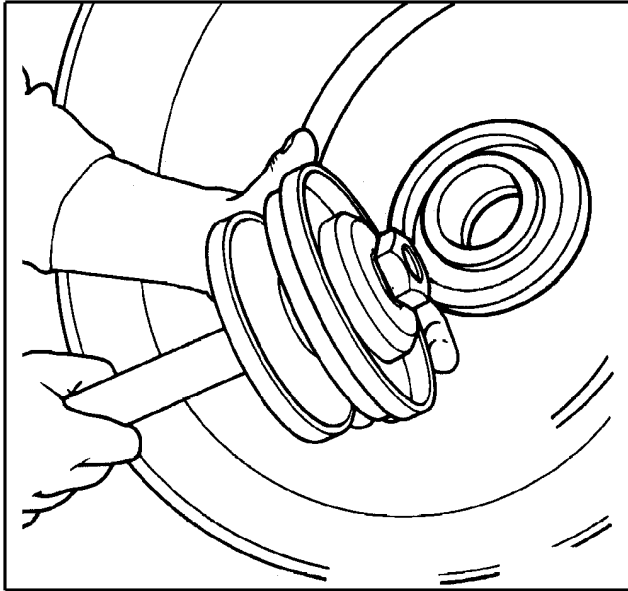

Figure 27 Installation of Unitized Seal Onto Tool Adapter
3. To install seal, place outer face of seal in the recess of the selected tool adapter (Figure 27).